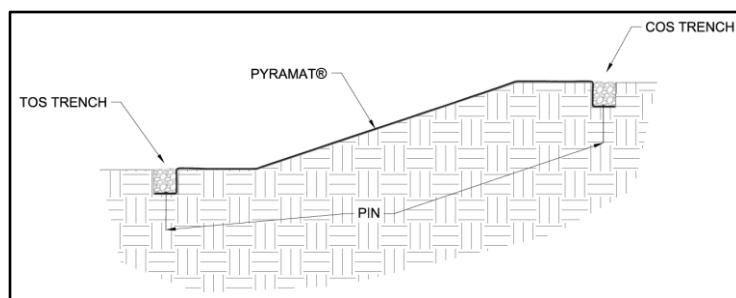

Figure 12: Crest of Slope (COS) Trench and Toe of Slope (TOS) Trench Complete
1. Begin the **PYRAMAT LAYDOWN** process by starting with the downstream / downwind end of the site. To ensure proper pinning of the overlapped areas the proceeding roll width must be laid out before the current roll width can be pinned with exception to the final roll width. For straight sections of a slope, PYRAMAT panel lengths should be long enough to construct COS and TOS trenches while also covering the surface of the slope being armored (Figure 12). Panel edges should rest approximately perpendicular to the slope center line. For best results, panels of PYRAMAT should be continuous and free from seams or roll end overlaps that are parallel to the centerline of the slope. Panel edge overlapping should follow a pattern of placing each proceeding panel's edge overtop the previous panel edge, shingling the panels in the direction of the water flow or prevailing wind.
- Secure PYRAMAT with pins in the TOS trench. Suggested placement of pins for the TOS trench is along the bottom of the trench with pins on 12 in (300 mm) centers (Figure 12).
- Backfill and compact the TOS trench. (Figure 12)